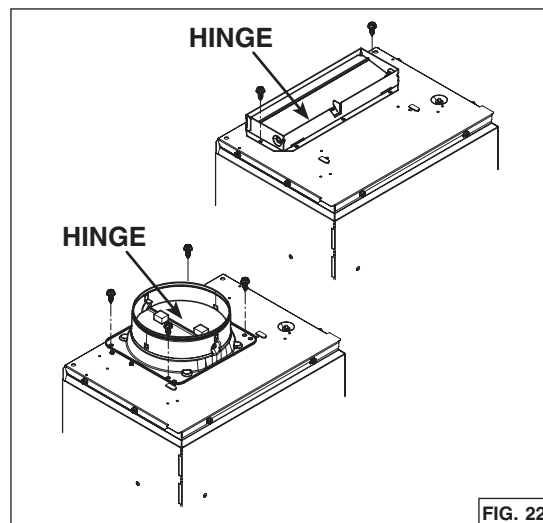

FIG. 22
9. For rectangular ducting, use 2 included no. 8-18 x 1/4" metal screws to attach the included 3 1/4" x 10" adapter damper on top of the unit, over the blower exhaust opening (FIG. 22).
For round ducting, use 4 included no. 8-18 x 1/4" metal screws to attach the included 6-in. round adapter damper on top of the unit, over the blower exhaust opening (FIG. 22).